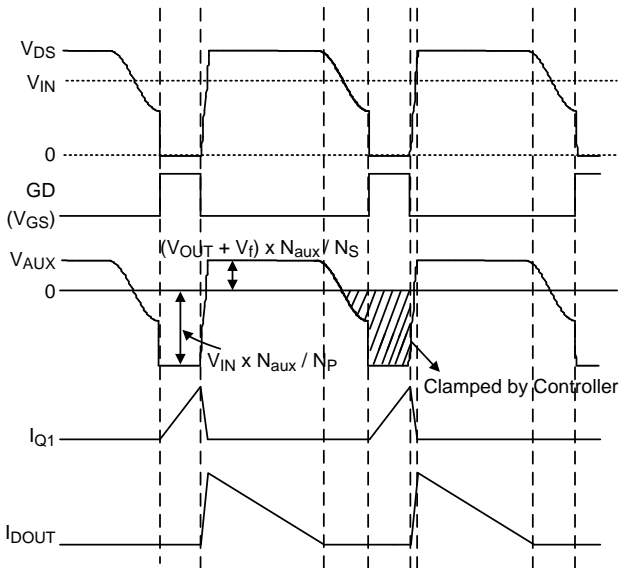

Figure 3. Key Waveforms of a Flyback Converter
The RT7304A needs no shunt regulator and opto-coupler at the secondary side to achieve the output current regulation. Figure 3 shows several key waveforms of a conventional flyback converter in Quasi-Resonant (QR) mode, in which V_{AUX} is the voltage on the auxiliary winding of the transformer.